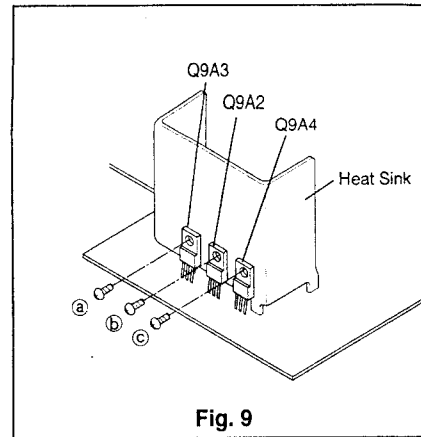

Fig. 9
- ⑥ To service the component side, remove three screws (a, b and c: 669D222090) retaining the Heat Sink shown in Fig. 9.